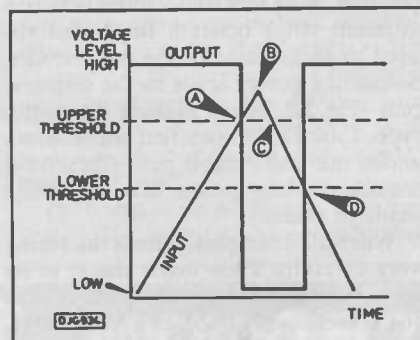

Fig 16. Inputs and outputs of the Schmitt trigger gate.
Another way of debouncing is to use a gate with a *Schmitt trigger* input. The action of a NOT gate with an input of this type is shown in Fig.16. Imagine that we have a circuit in which the input voltage can be increased or decreased *gradually*. The input is 0V to begin with (low) so the output is high. We raise the input voltage gradually. Nothing happens to the output at first but, when the input reaches a level known as the *upper threshold voltage* (point A on the graph), the output suddenly goes low. The input may be increased further (B) but there